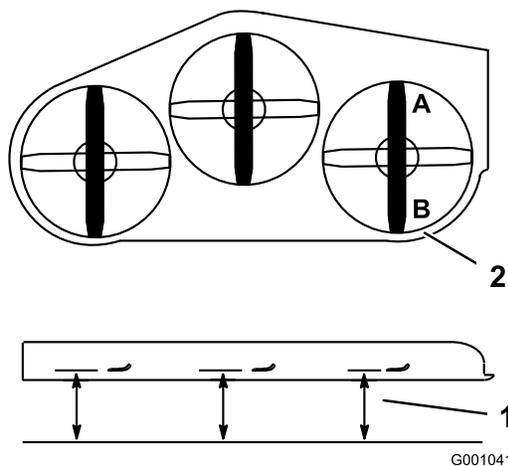

Figure 82
1. Position the right blade front-to-rear (Figure 82).
2. Measure the right blade at the **A** location, from a level surface to the cutting edge of the blade tip(Figure 82).
4. Measure the right blade at the **B** location, from a level surface to the cutting edge of the blade tip (Figure 82).
6. The mower blade should be a 1/4 to 3/8 inch (6 to 10 mm) lower at position **A** than at position **B** (Figure 82). If it is not correct, proceed to the following steps.